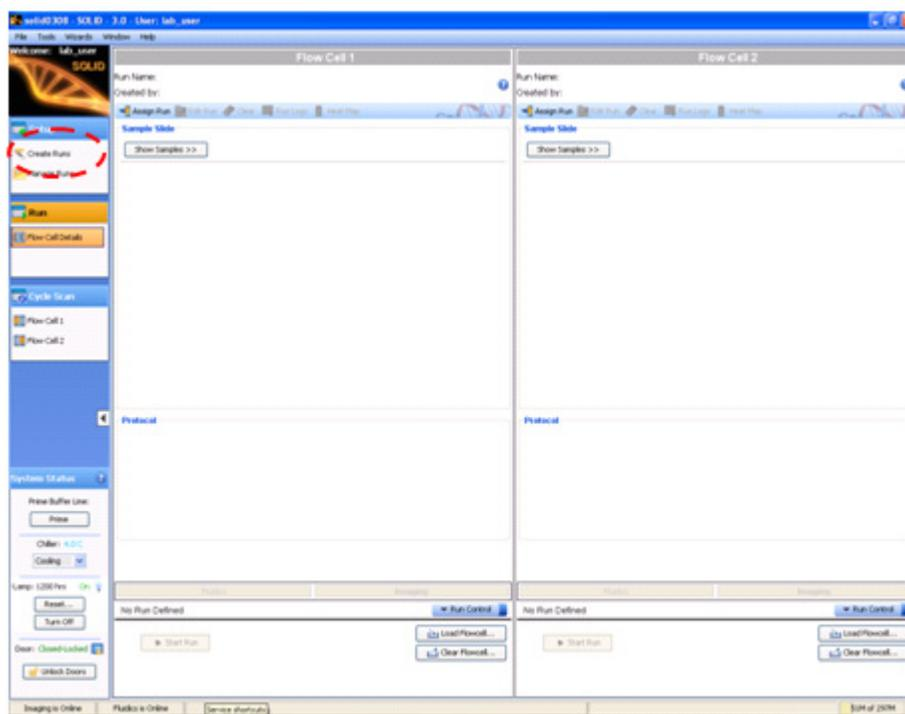

Figure 46 Use the run wizard to create a multiplex sequencing run.
1. Click **Create Runs** in the Setup task pane on the left menu pane of the ICS (see Figure 46).